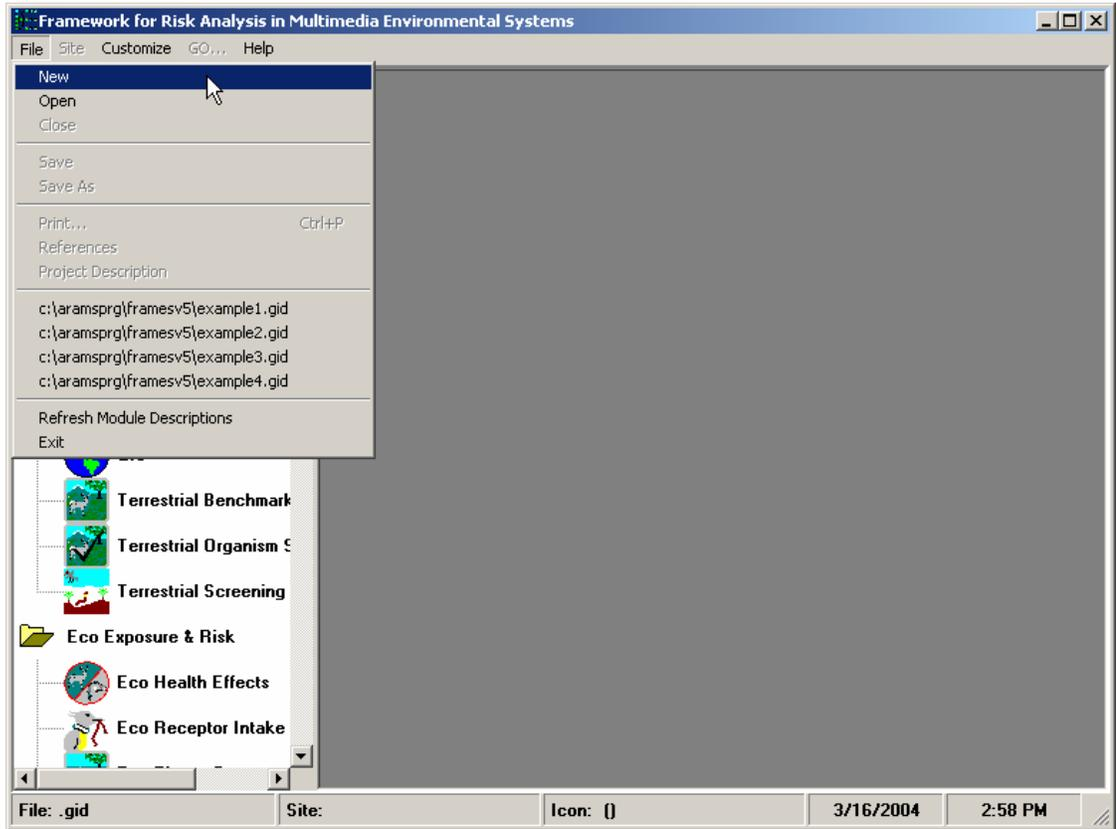

Figure 2. Opening a new file
- While ARAMS/FRAMES is running, click “File” from the FRAMES menu and choose “New.” A window titled “Global Input Data Open New” will appear (see Figure 2). In the “File Name” box enter the project name (type: “Sample1,” maximum of eight characters) and click “Open” (see Figure 3). **Do not name the new file “Example1” because it will write over the existing “Example1” file that was distributed with the tutorial.** A window titled “Create New Site” will appear. Next, type the project site name (type: Site 1) and click “OK” (see Figure 4).